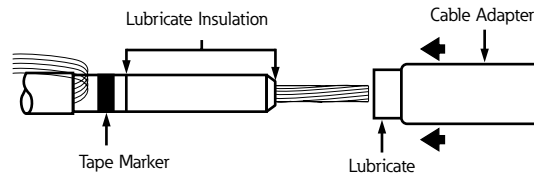

Figure 20. Line illustration of insulation cable adapter.
- Slide small end of cable adapter over cable using twisting motion until small end is flush with tape marker. Refer to Figure 20.